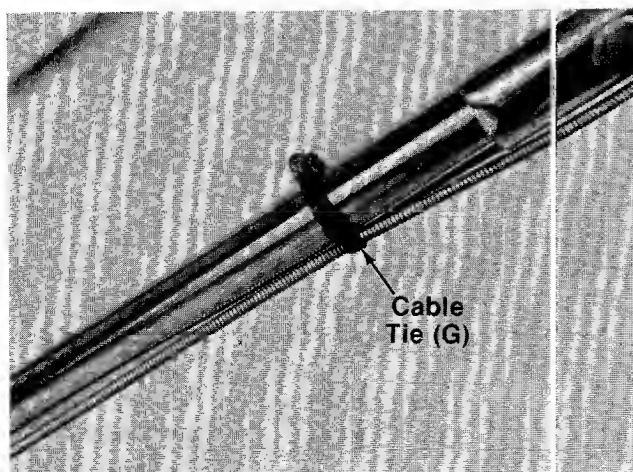

FIGURE 9.
15. Secure throttle control and brake cables to upper and lower handles with cable ties (G). See figure 9.